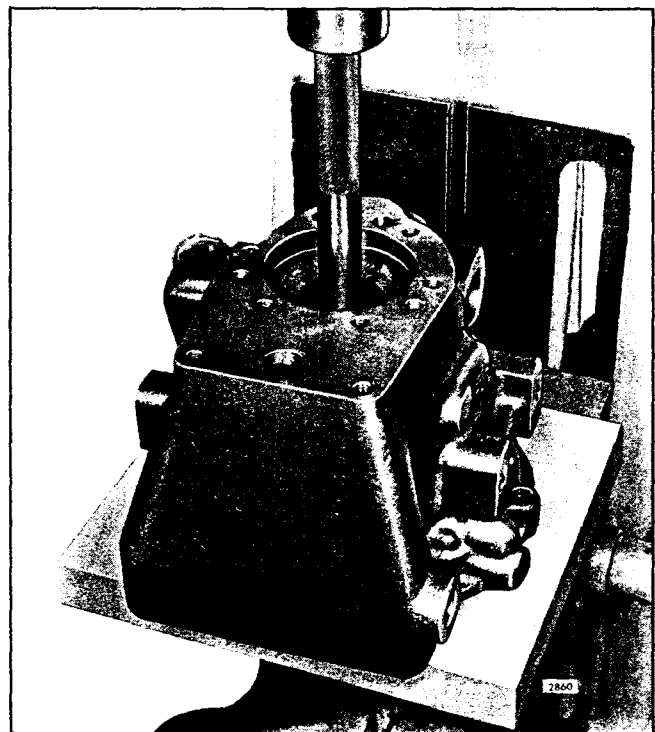

Fig. 34 - Removing Drive Shaft Bushings from Gear Housing
- b. Place the bushing remover and installer J 8466 with handle J 7079-2 down in the bushing with the handle under the ram of the press as shown in Fig. 34.